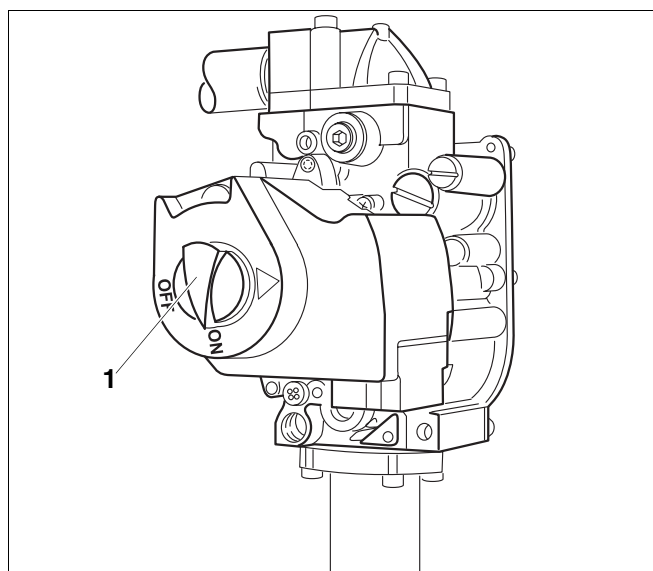

Fig. 10 GC124 II gas valve
- Never use excessive force on the ON/OFF knob (→ Fig. 10).
3. Turn ON/OFF knob (→ Fig. 10) counterclockwise to the ON position.